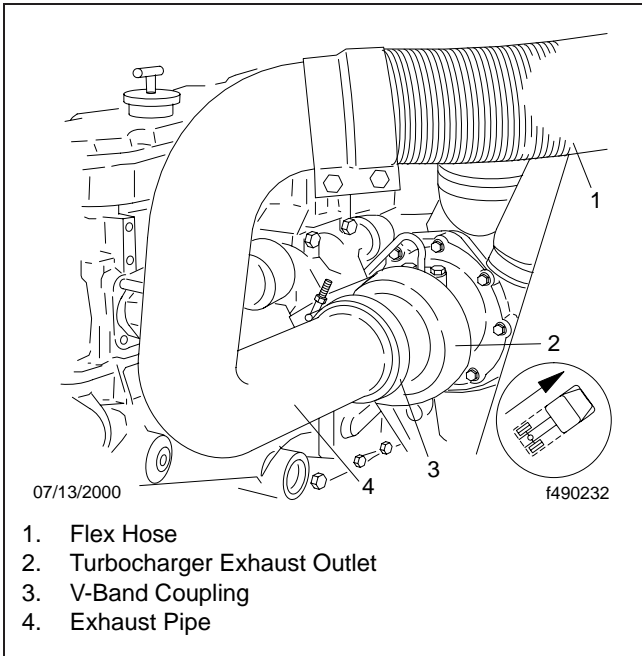

Fig. 2, V-Band Coupling and Flex Hose
2. Inspect the exhaust ex hose (**Fig. 2**) for leakage, wear, or damage. Replace with new parts if replacement is needed.
3. Check for leakage at the V-band coupling, which attaches the exhaust pipe to the turbocharger exhaust outlet. See **Fig. 2**.